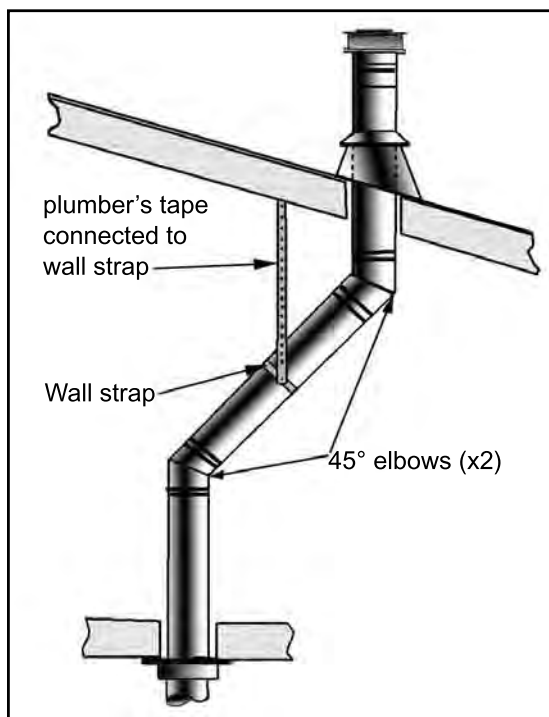

Figure 17: Use of Wall Straps.
(1) If an offset is necessary in the attic to avoid obstructions, it is important to support the vent pipe every 3 feet (91 cm), to avoid excessive stress on the elbows, and possible separation. Wall straps are available for this purpose (see Figure 17).
(2) When ever possible, use 45° degree elbows instead of 90° degree elbows. The 45° degree elbow offers less restriction to the flow of flue gases and intake air.